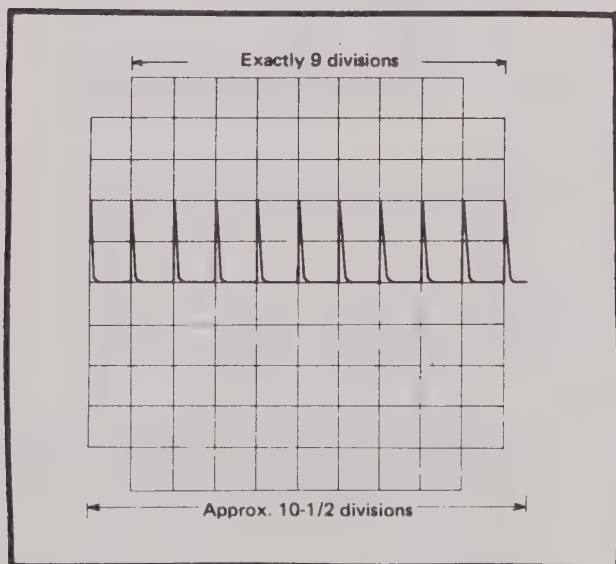

Fig. 28. Sweep Time and Sweep Length Adjustment.
3. Adjust VR15 so 10 marks exactly occupy 9 divisions as shown in Fig. 28 (first mark may not be visible).
4. Adjust VR6 for total sweep length to approximately 10.5 divisions (Fig. 28).
2. Adjust TC1, TC2, and VR5 so that the 11 markers occupy exactly 10 divisions (Fig. 28). The first marker may not be visible.